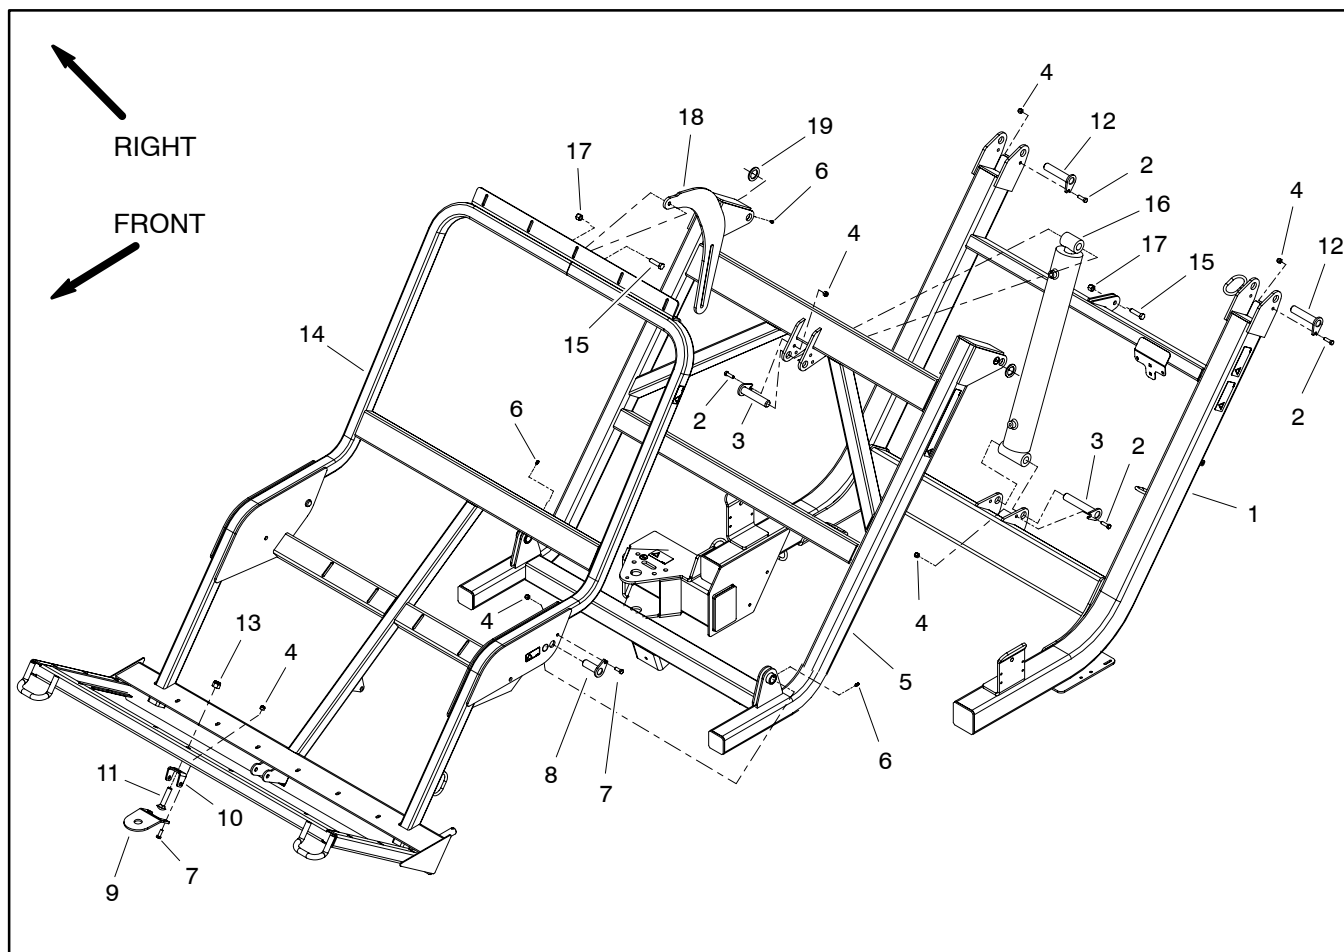

Figure 11
Disassembly (Fig. 11)
2. Disassemble frame as needed using Figure 11 as a guide.
Assembly (Fig. 11)
1. Assemble frame using Figure 11 as a guide.